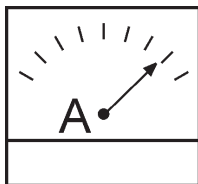

Figure 53. Ammeter (Load)
15. Observe the generator's **ammeter** (Figure 53) and verify it reads the anticipated amount of current with respect to the load. The ammeter will only display a current reading if a load is in use.